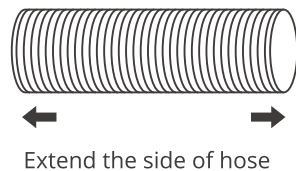
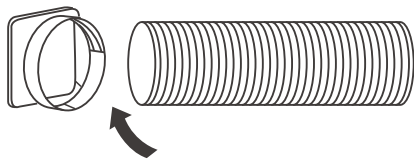

Fig.1
Fig.2
- Extend either side of the hose (Fig.1), and screw the hose inlet (Fig.2).